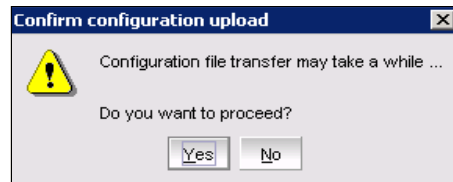

Figure 8-92 Confirm configuration upload
4. When prompted to verify that you want to perform this function (as shown in Figure 8-92), click **Yes** to continue.